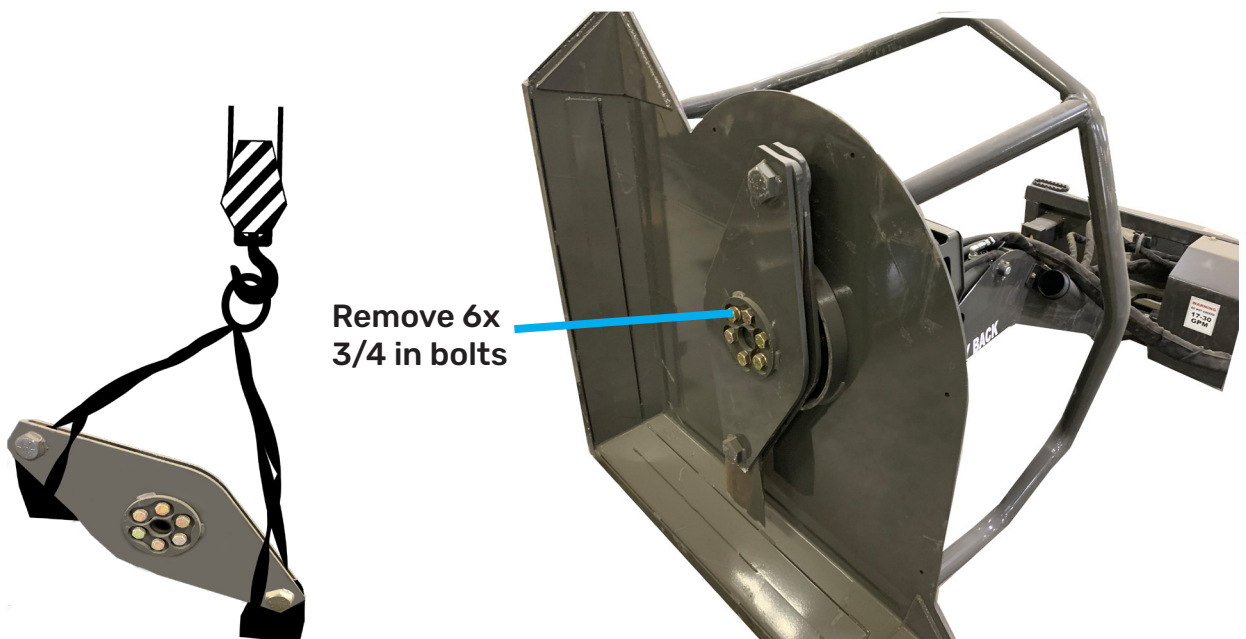

Figure 4.4a Blade Holder and Sling System
2. Position the cutter deck in a vertical position to gain access to the blade holder (see figure 4.4a below).